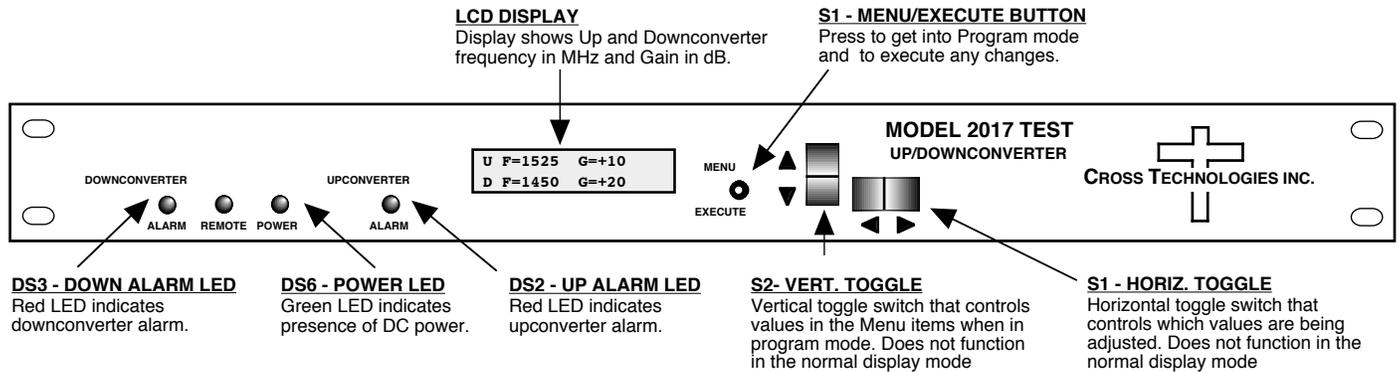

Figure 2.2 Model 2017-TD02 Front Panel Controls and Indicators
- 4.) Be sure DS6 (Green, DC Power) is on and DS2 Upconverter Alarm and DS3 Downconverter Alarm are off (Figure 2.2).
2.5.1 Functions - This section describes operation of the front panel controls. There are three operator switches, the LCD display and alarm indicator LEDs. All functions for the equipment are controlled by these components. The functions are (see Figure 2.2):
Alarm indications appear on the LEDs (see figure 2.2).